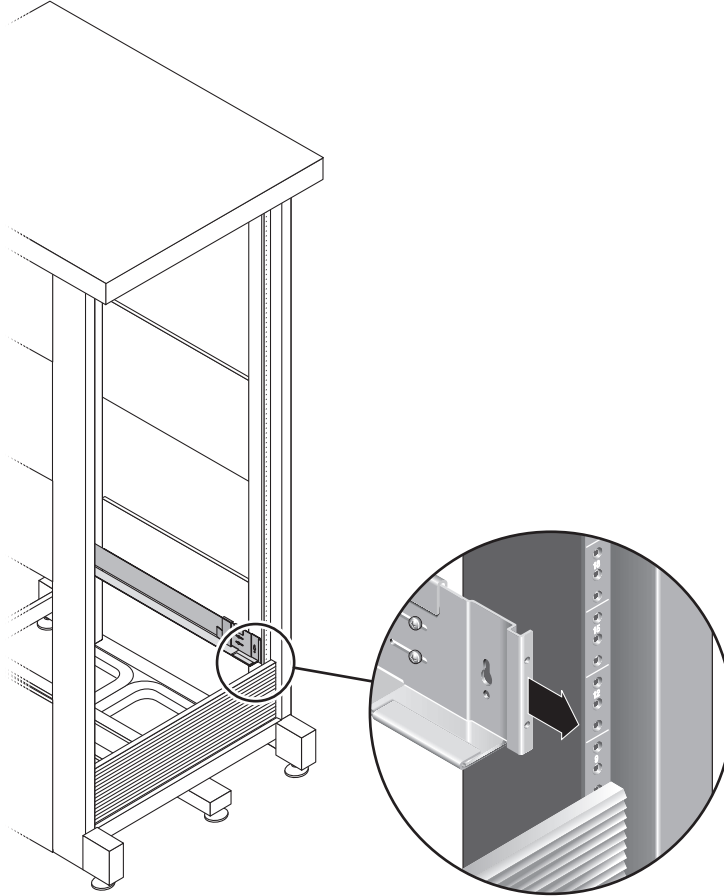

FIGURE 2-10 Adjusting the Length of the Left Rail at the Back of the Cabinet
6. At the back of the cabinet, adjust the length of each rail as needed to fit the cabinet, and position the rail flange over the vertical rail (FIGURE 2-10).